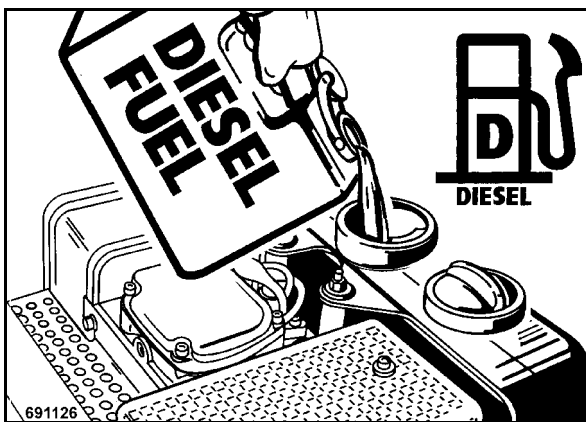

Fig. 49
- If necessary fill in fuel through a funnel with filter screen (Fig. 49).